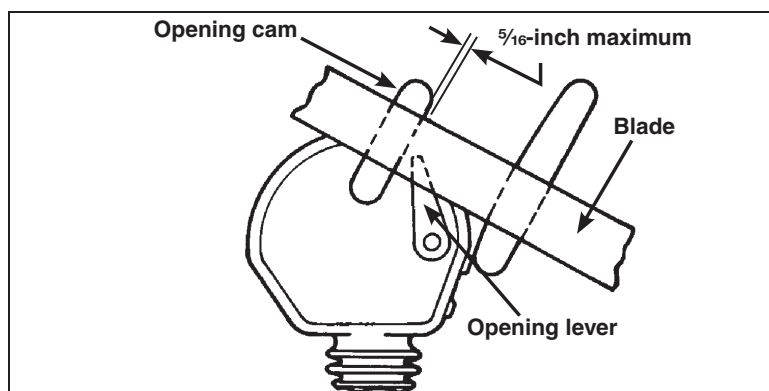

Figure 25. Blade assembly moving in the closing direction.
- (a) As the blade moves in the closing direction, clearance between the blade-opening cam and the interrupter-opening lever must be within the limit shown in Figure 25.